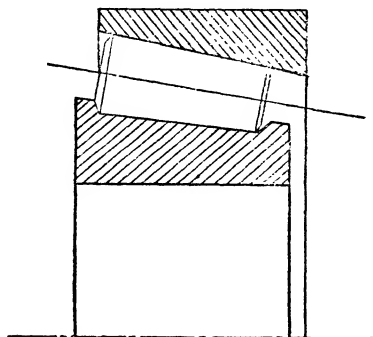

Fig. 1. Roller bearing widely used for carrying radial and thrust loadings.
**BALL BEARINGS** are of two chief kinds: thrust bearings and radial bearings, the former being designed for axial loading and the latter for loads at right-angles to the shaft. Radial bearings will, however, withstand a certain amount of axial thrust in addition to normal loading; if the loads are considerable, roller bearings, of the special form evolved for the purpose, should be used (see Fig. 1).
**Taper Roller Bearings.** These have conical tracks and the rollers are tapered as shown in Fig. 1. This allows thrust loads to be taken in one direction. As in ball bearings, the rollers are spaced by a cage which prevents their touching each other.